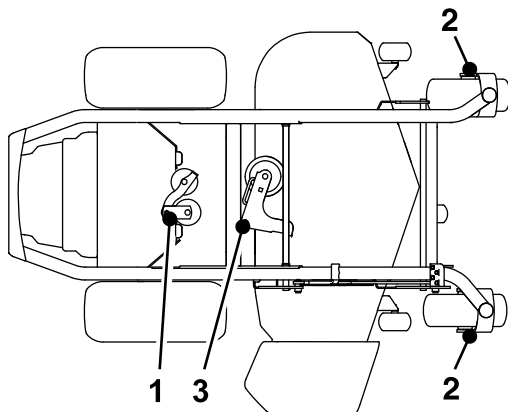

Figure 43
4. Grease the pump idler-pulley pivot with 1 or 2 pumps of grease (Figure 43).
5. Grease the front caster axles (Figure 43).